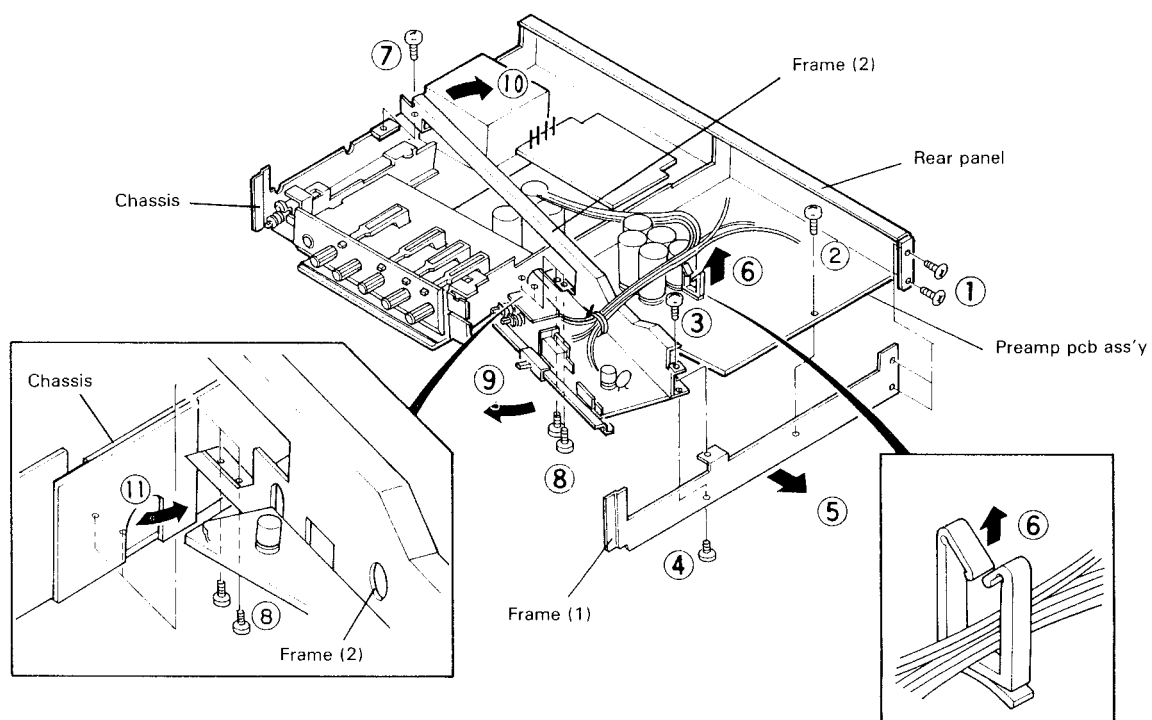

Fig. 6 How to remove switch pcb ass'y (X13-2980-00) (1)
3. Remove the screws from the right side of the rear panel. (Fig. 6-①)
4. Remove the screw, on the preamp unit, from the frame (1). (Fig. 6-②)
5. Remove the screws from the frame (1) and (2). (Fig. 6-③, ④)
6. Remove the frame (1). (Fig. 6-⑤)
7. Remove the leads from wire clamber. (Fig. 6-⑥)
8. Remove the screw from the frame (2). (Fig. 6-⑦)
9. Remove the 2 screws on the bottom plate, from the frame (2). (Fig. 6-⑧)
10. Slide the frame (2) rightward and turn 30° clockwise.
**Note:** When removing the preamp pcb ass'y, be careful not to damage it by the projections of frame (2).